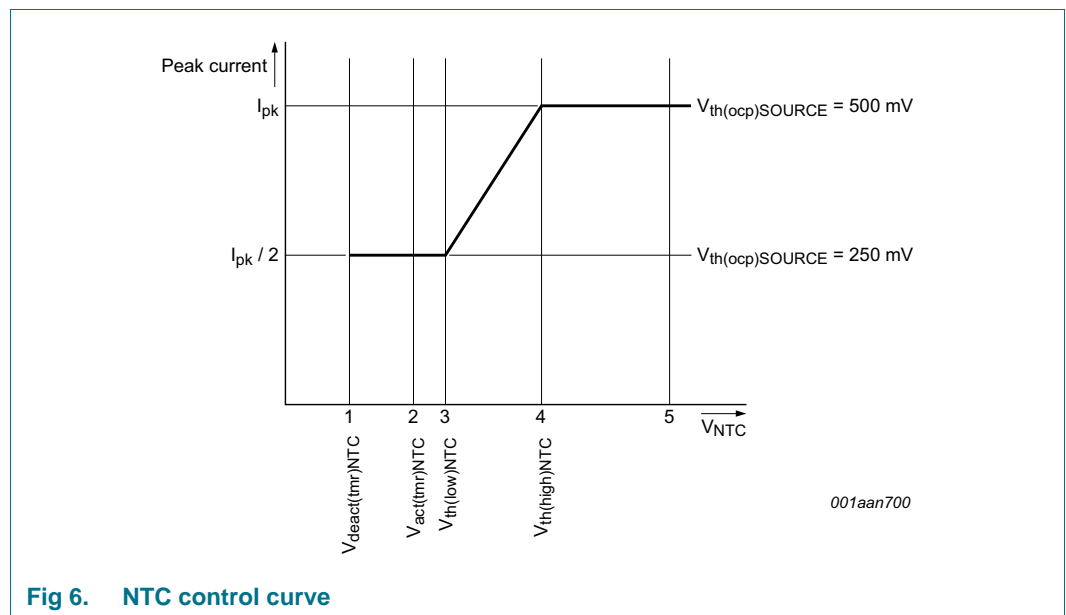

Fig 6. NTC control curve
The NTC pin can be used as a control method for LED thermal protection. Alternatively, the pin can be used as an input to disable/enable light output using a digital signal (PWM regulation). The pin has an internal current source that generates the current of $I_{offset(NTC)}$. An NTC resistor to monitor the LED temperature can be connected directly to the NTC pin. Depending on the resistance value and the corresponding voltage on the NTC pin, the converter reacts as shown in Figure 6.
When the voltage on the NTC pin exceeds $V_{th(high)NTC}$ (see Figure 6 \(4\)), the converter delivers nominal output current. When the voltage is lower than this level, the peak current is gradually reduced until $V_{th(low)NTC}$ is reached (see Figure 6 \(3\)). The peak current is now half the peak current of nominal operation. When $V_{act(tmr)NTC}$ is passed (see Figure 6 \(2\)), a timer starts to run to distinguish between the following situations:
- If the low-level $V_{deact(tmr)NTC}$ is not reached within time $t_{to(deact)NTC}$ (see Figure 6 \(1\)), LED overtemperature is detected. The IC stops switching and attempts to restart from the HV pin voltage. The converter restarts from an NTC protection shutdown when the voltage on the NTC pin exceeds $V_{th(high)NTC}$ (see Figure 6 \(4\)). It is assumed that the reduction in peak current does not result in a lower NTC temperature and LED OTP is activated.
- If the low-level $V_{deact(tmr)NTC}$ is reached within the time $t_{to(deact)NTC}$ (see Figure 6 \(1\)) it is assumed that the pin is pulled down externally. The restart function is not triggered. Instead, the output current is reduced to zero. PWM regulation and consequently LED output current regulation can be implemented this way. The output current rises again when the voltage exceeds $V_{th(low)NTC}$.
The NTC pin can be used to make a soft start function. During switch-on, the level on the NTC pin is low. By connecting a capacitor (in parallel with the NTC resistor), a time constant can be defined. The time constant causes the level on the NTC pin to increase slowly. When passing level $V_{th(low)NTC}$ (see Figure 6 \(3\)), the converter starts with half of the maximum current. The output current slowly increases to maximum when $V_{th(high)NTC}$ (see Figure 6 \(4\)) is reached.